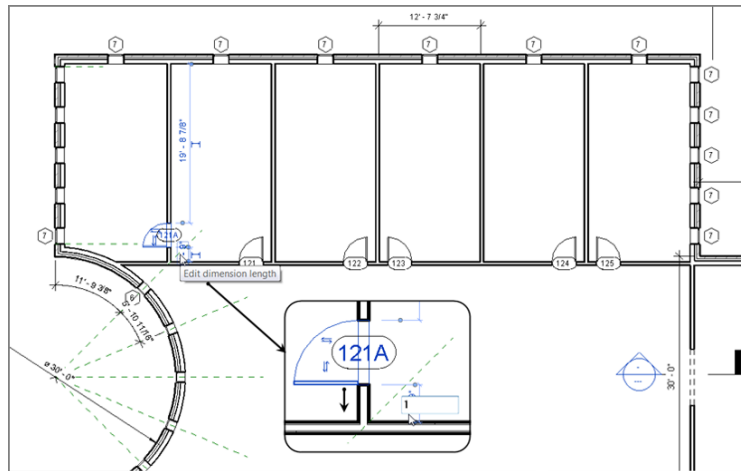

FIGURE 5.37: When you type a different value, the temporary dimension moves the object.
1. Zoom in on the left side of the west wing, as shown in Figure 5.37.
2. Select the door (see Figure 5.37). There is a blue dimension on each side of the door. These are temporary dimensions.
3. Pick the blue text in the lower temporary dimension (see Figure 5.37). The text might be obscured by the wall, but if you hover over it, it will activate, and then you can select it.
4. Type 1 (300). For Imperial users, this is the equivalent of 1'-0" (300 mm). The door moves.